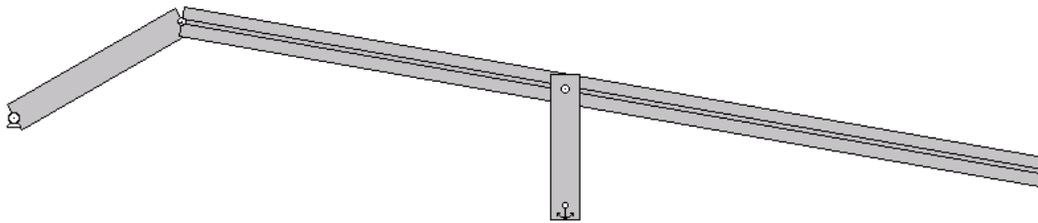

Figure 7
12. Delete the anchor on BD and place a new anchor on the vertical link drawn at point E. Now, the workspace should look like Figure 7.